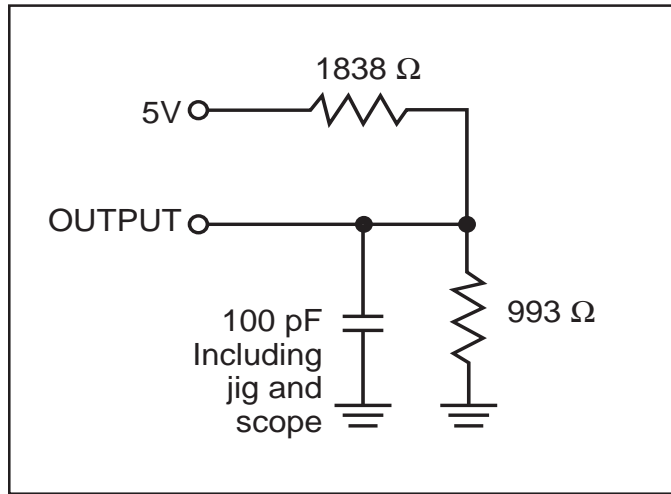

Figure 1a.
- Test conditions assume signal transition times of 5 ns or less, timing reference levels of 1.5V, input pulse levels of 0.6 to 2.4V and output loading specified in Figure 1a.
Output Load	See Figures 1a and 1b
1. Test conditions assume signal transition times of 5 ns or less, timing reference levels of 1.5V, input pulse levels of 0.6 to 2.4V and output loading specified in Figure 1a.